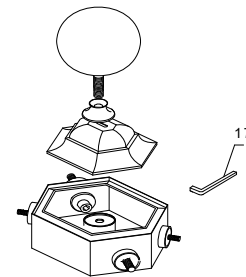

Figure2
5. Insert the foyer trolley head piece **6** into the frame legs **7**; use spanner **17** to tighten bolts from the headpiece into the frame legs (as *Figure 2*)